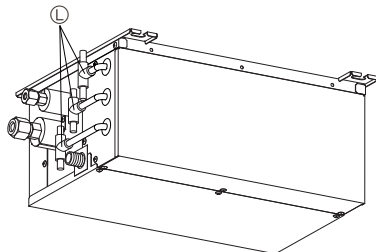

Fig. 9-7
- To divide the wirings of each terminal block into 2 branches outside the branch box, use 2-branch wiring conduits . (Fig. 9-7)